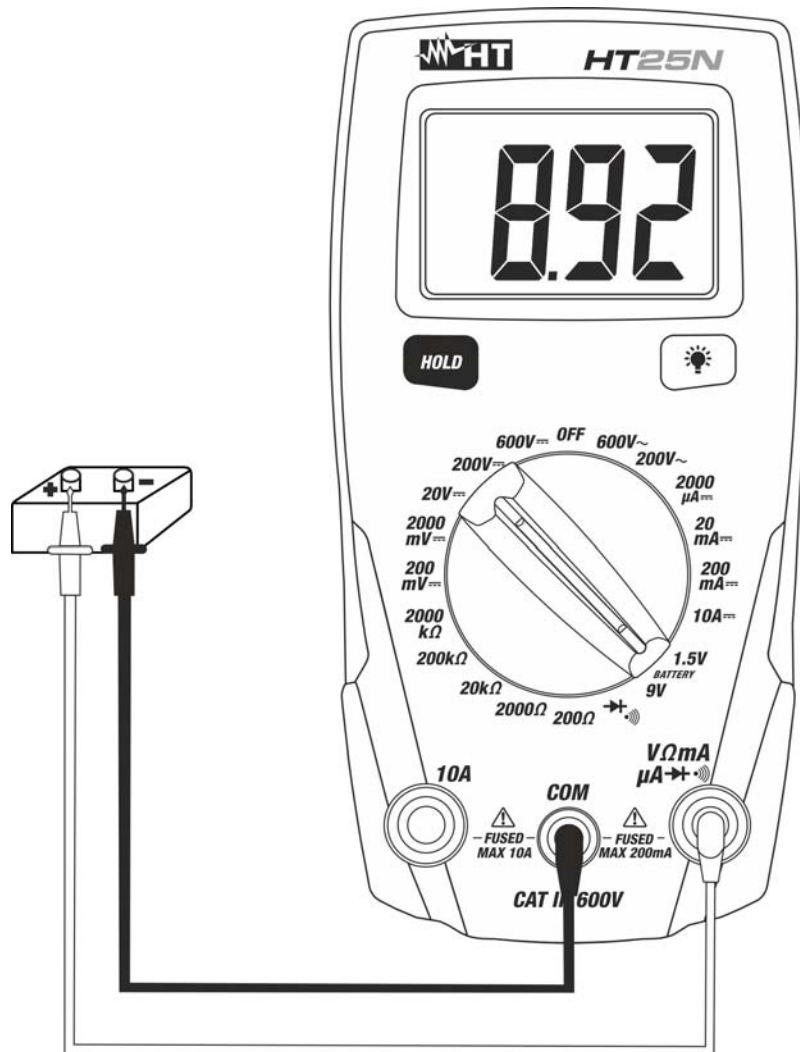

Fig. 7: Using the instrument for Battery test
3. Connect the red and black test leads to the positive and negative poles of the battery under test respectively (see Fig. 7). The battery voltage value is displayed